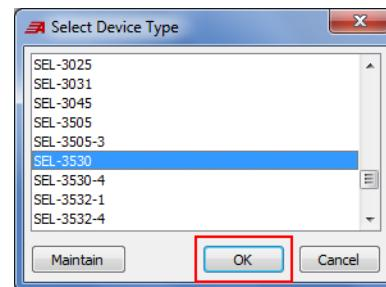

Figure 145 Add SEL-3530 Device Type
Step 13. Right-click the **RTAC Listening** folder, select Add > Device, and add the **SEL-3530**, as shown in Figure 145.